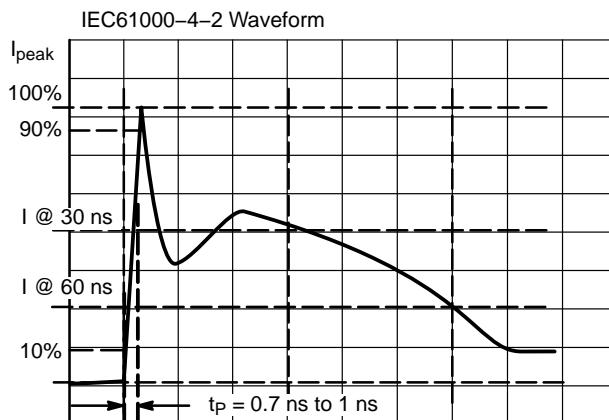

Figure 16. IEC61000-4-2 Spec
1. For test procedure see Figure 16 and application note AND8307/D.